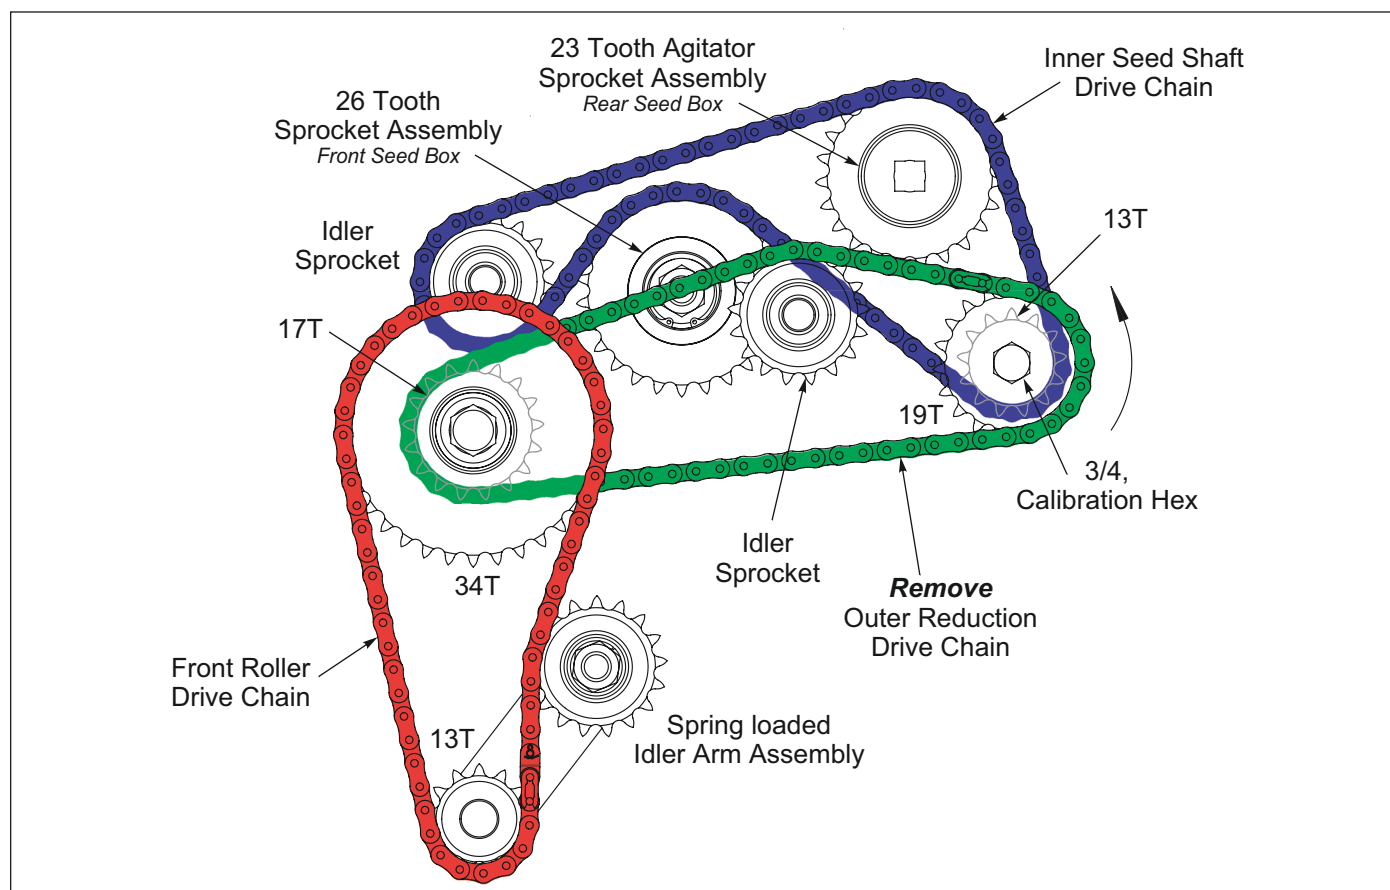

Figure 3-9: Chain Calibration
1. Remove the Outer Reduction Drive Chain between the 17 Tooth and 19 Tooth Sprockets. See Figure 3-9.